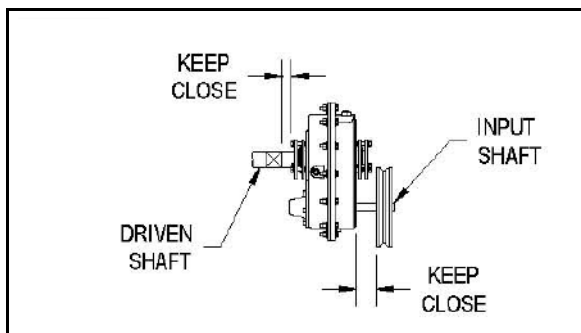

Figure 3.10 Reducer and Sheave Installation
4. Install sheave on input shaft as close to reducer as practical. (See Figure 3.10)